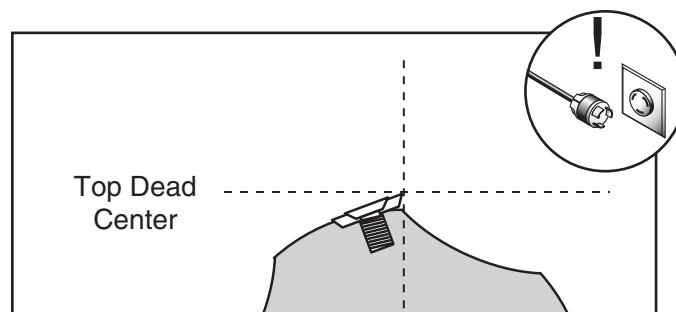

Figure 1. Cutterhead insert at top-dead-center.
3. Place a straightedge on the outfeed table so it extends over the cutterhead and rotate the cutterhead pulley until one of the carbide inserts is at top-dead-center (TDC), as shown in **Figure 1**.